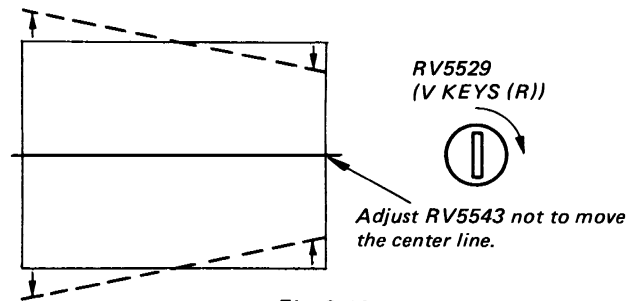

Fig. 3-19
- (4) Adjust RV5521 (V CENT (R)) to approach the red horizontal center line to the green horizontal center line properly for easier adjustment.
- (5) Adjust RV5502 (H CENT (R)) to approach the red vertical center line to the green vertical center line properly for easier adjustment.
- (6) Adjust RV5543 (V KEYS ADJ) so that the red horizontal center line does not move upward or downward to turn RV5529 (V KEYS (R)). (Fig. 3-19)